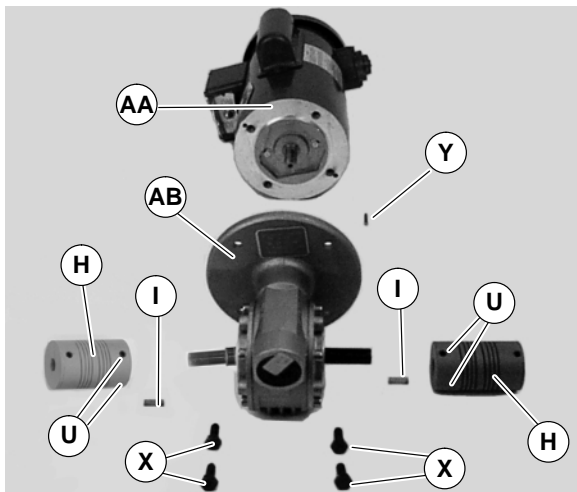

Figure 37
7. Remove four screws (X of Figure 37). Detach motor (AA) from gear reducer (AB). Retain shaft key (Y).
12. With key (Y of Figure 37) in keyway, slide motor (AA) and gear reducer (AB) together. Install screws (X) and tighten.
13. Attach couplings (H of Figure 37) to gear reducer shaft. Tighten set screws (U) to 4.7 Nm.